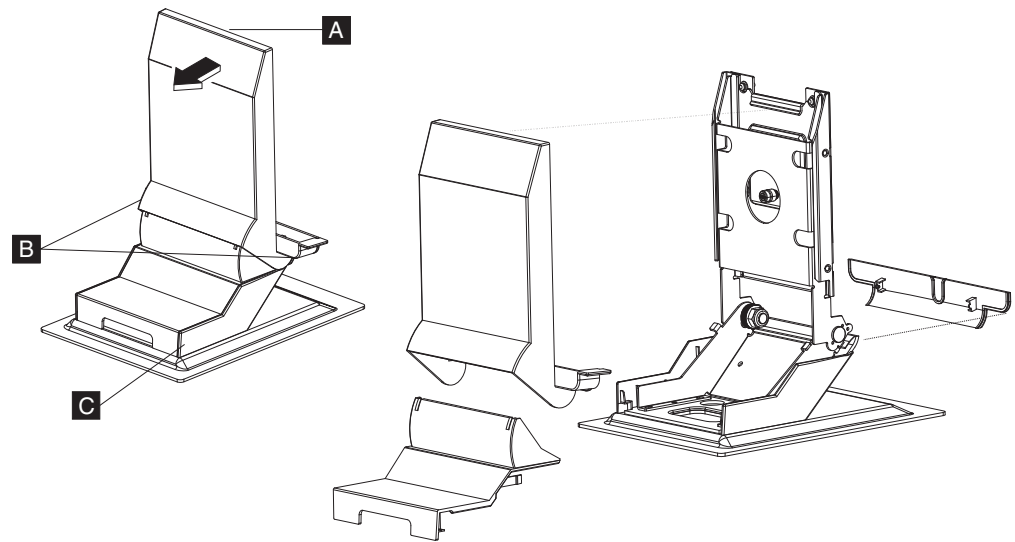

Figure 35. Removing the stand cover set
2. Remove the upper cover (**A**) by pulling on the two finger grips on the bottom at the far left and right sides (**B** in Figure 35) in the direction shown.